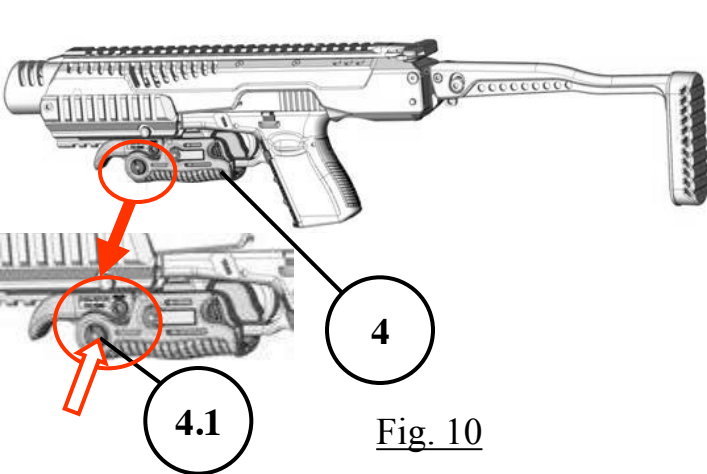

Fig. 10
Step 1. In order to secure the the Trigger, fold the Triggerguard Foregrip to horizontal position by pressing the Button (4.1) (Fig 10).